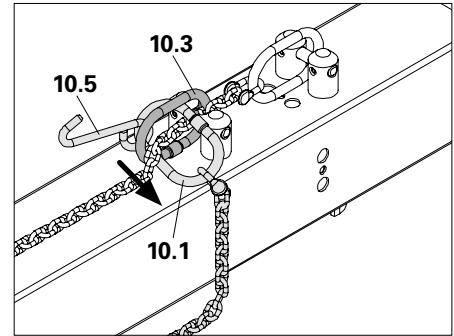

Fig. A3.02b
4. Insert Ring 1 (**10.1**) with hook (**10.5**) through Ring 3 (**10.3**) and pull through. (Fig. A3.02b)